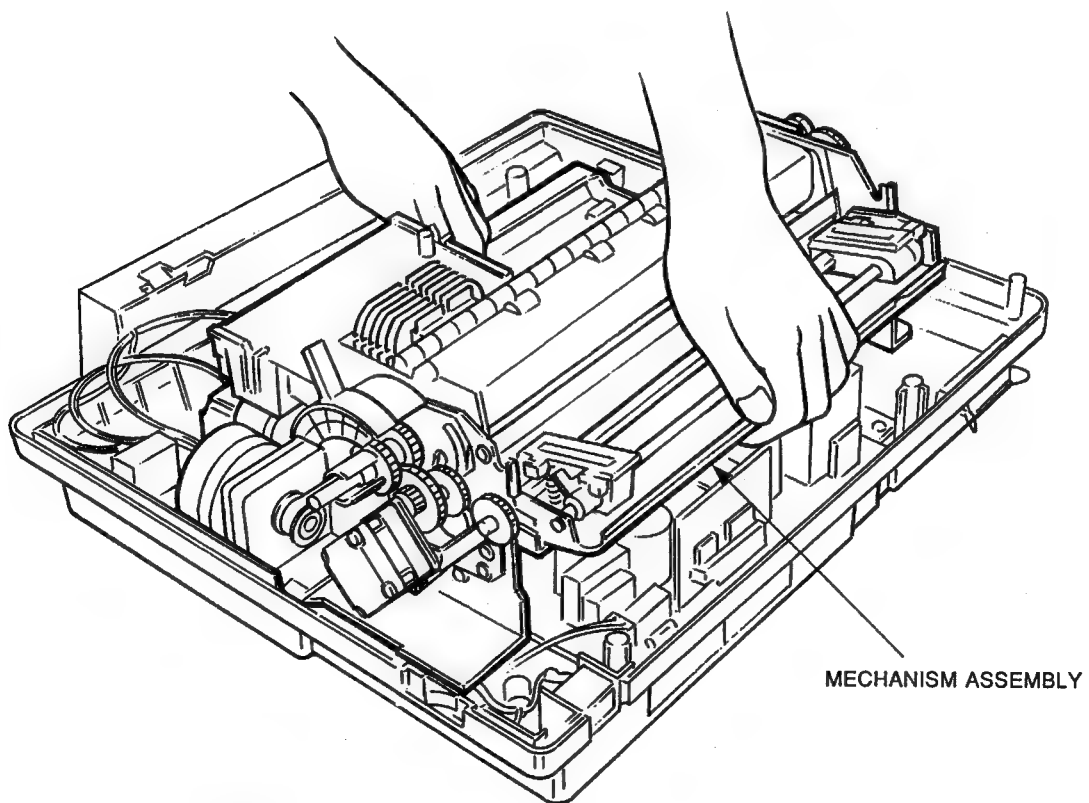

Figure 3-44 Mechanism Assembly Removal
9. Hold the mechanism assembly by the front and rear frames, lift the assembly out of the printer (see Figure 3-44).